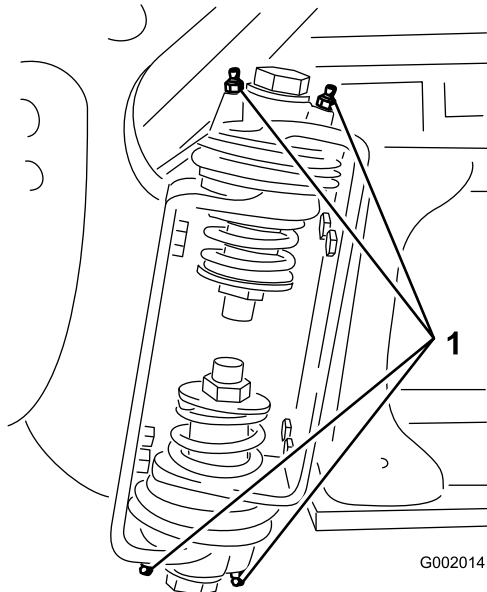

Figure 103
2. Pump grease into the bearing or bushing at each fitting Figure 103.